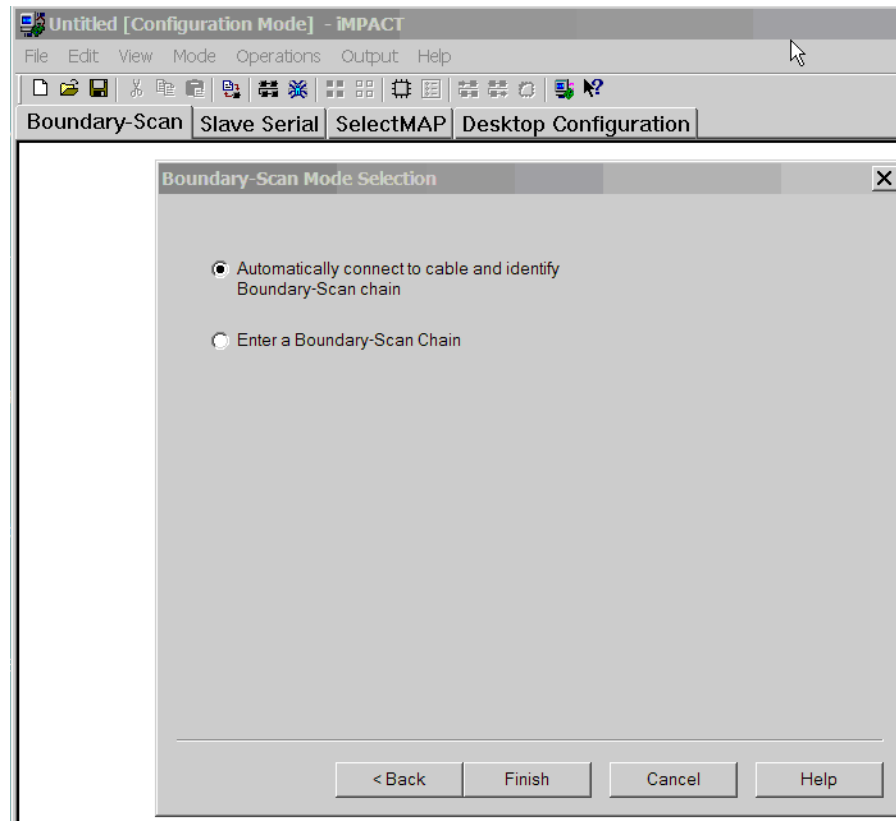

Figure C-3: **Boundary Scan Mode Selection: Automatically Connect to the Cable and Identify the JTAG Chain**
- Click on Next and then select Automatically connect to the cable and identify the Boundary Scan as shown in Figure C-3.